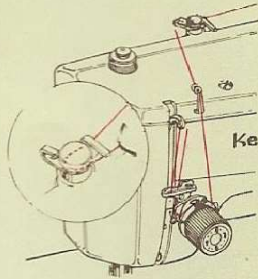

Fig 4
4. Continue threading through the front thread guide, take-up lever, and down through path shown in Fig. 4 and 5.